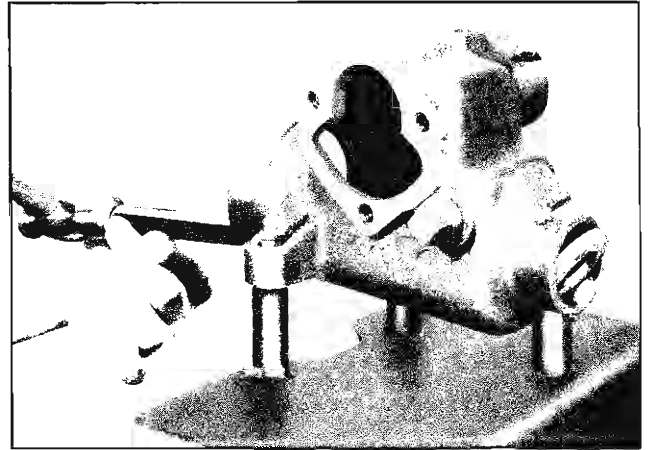

Fig. 9-23 Removing Upper Bearing Seal
1. Remove upper bearing seal by driving out with suitable punch (Fig. 9-23).